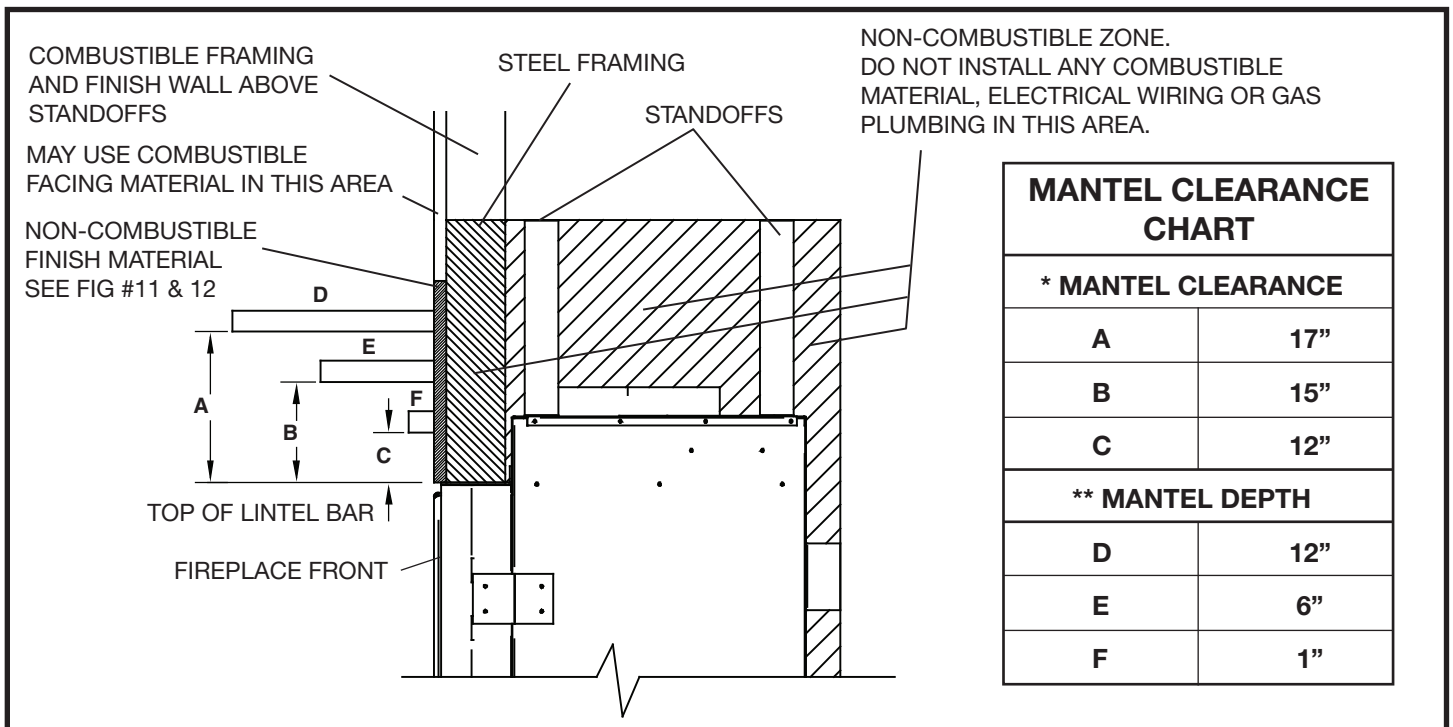
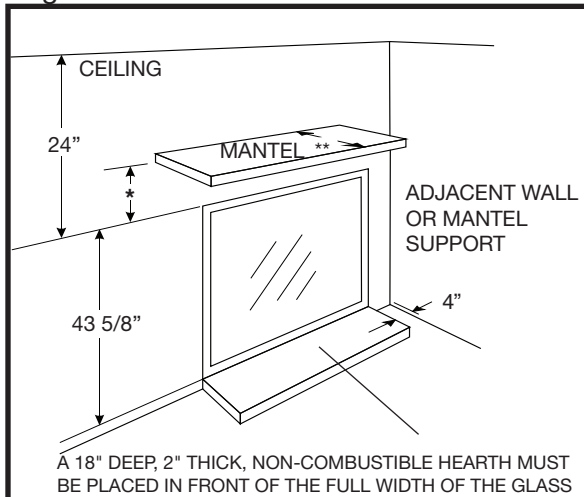

Figure 2: TC54 Mantle clearances.
Figure 3: Mantel clearances.
**The minimum clearances from the fireplace to combustible surfaces must be adhered to and are shown in Figure 2 & Figure 3.**